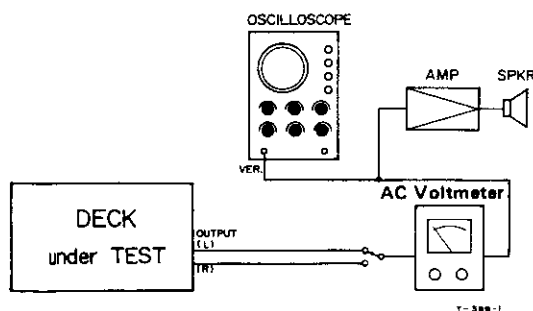

Fig. 6-5 Connection
3. Change the AC Voltmeter connection to the OUTPUT jacks as shown in Fig. 6-5.
1. Connect the deck and the test equipments as shown in Fig. 6-5.